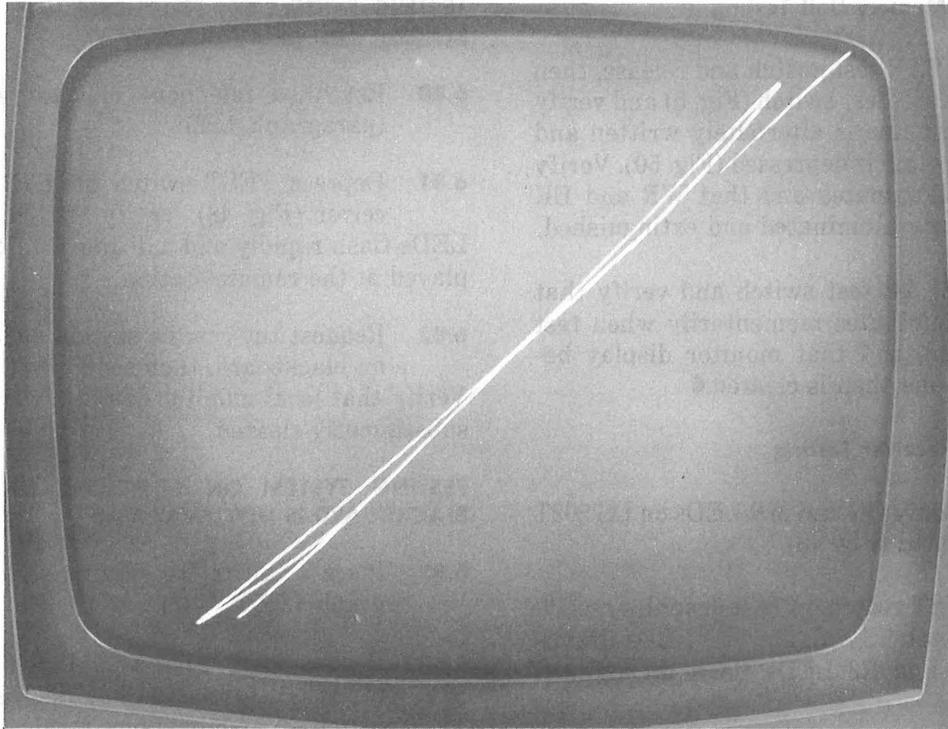

Fig. 54—Diagonal Test Line
6.59 Depress TEST switch on 1AR graphics receiver. Display should clear, followed by a diagonal line (Fig. 54). Release TEST switch when line is written.
6.76 Depress locking AL switch. Depress TEST switch and verify that RD LED illuminates and a diagonal test line appears on the monitor (Fig. 54). Release TEST and AL switches.